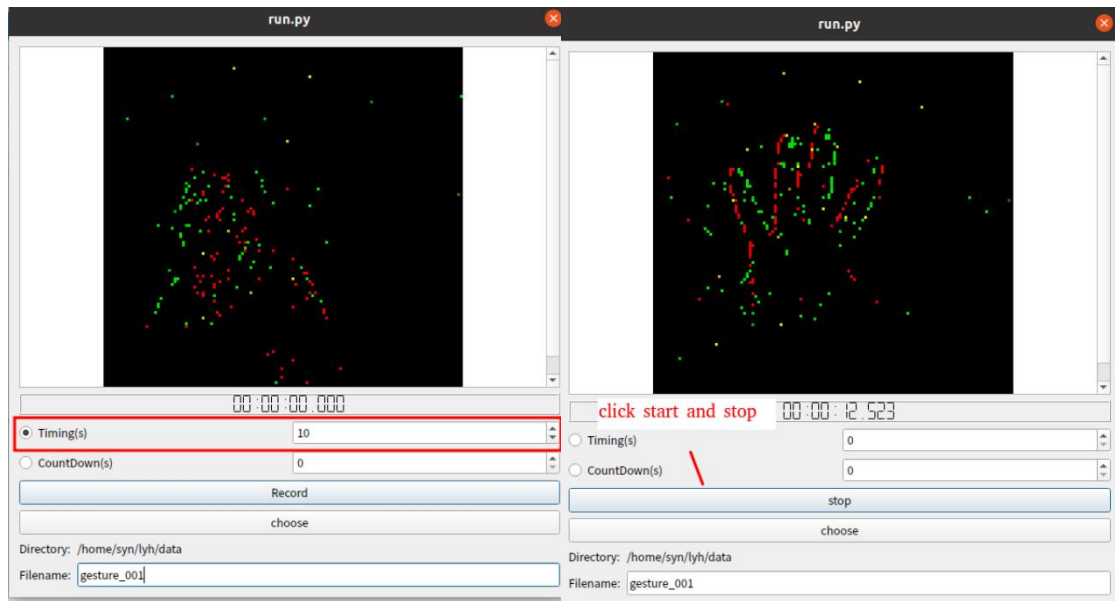

Figure 14: DVS tool record and settings
3. Start and stop recording, with the adjustment of record timing and countdown as shown in Figure 14.